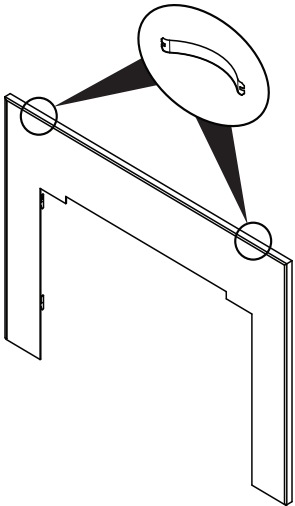

Figure 20.4
4. Install two steel springs at the top on each side and between the flat surround and the assembled trim kit as shown in **Figure 20.4**.